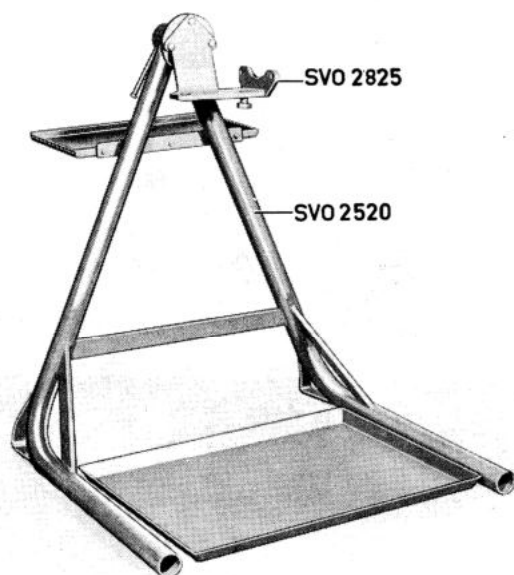

Fig. 4-12. Stand SVO 2520 with fixture SVO 2825
- SVO 2520 Stand, see Fig. 4-12. Used together with fixture SVO 2825
1. Fit fixture SVO 2825 in stand SVO 2520, see Fig. 4-12. Secure the gearbox in the fixture.